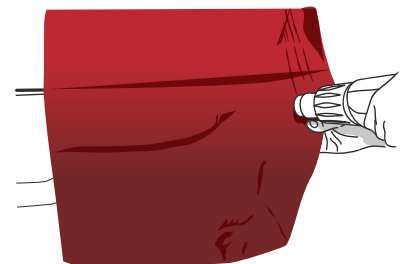

Figure 24
- › Heat the vinyl to a temperature ranging from 40 °C to 50 °C (from 104 °F to 122 °F). (FIG. 24)